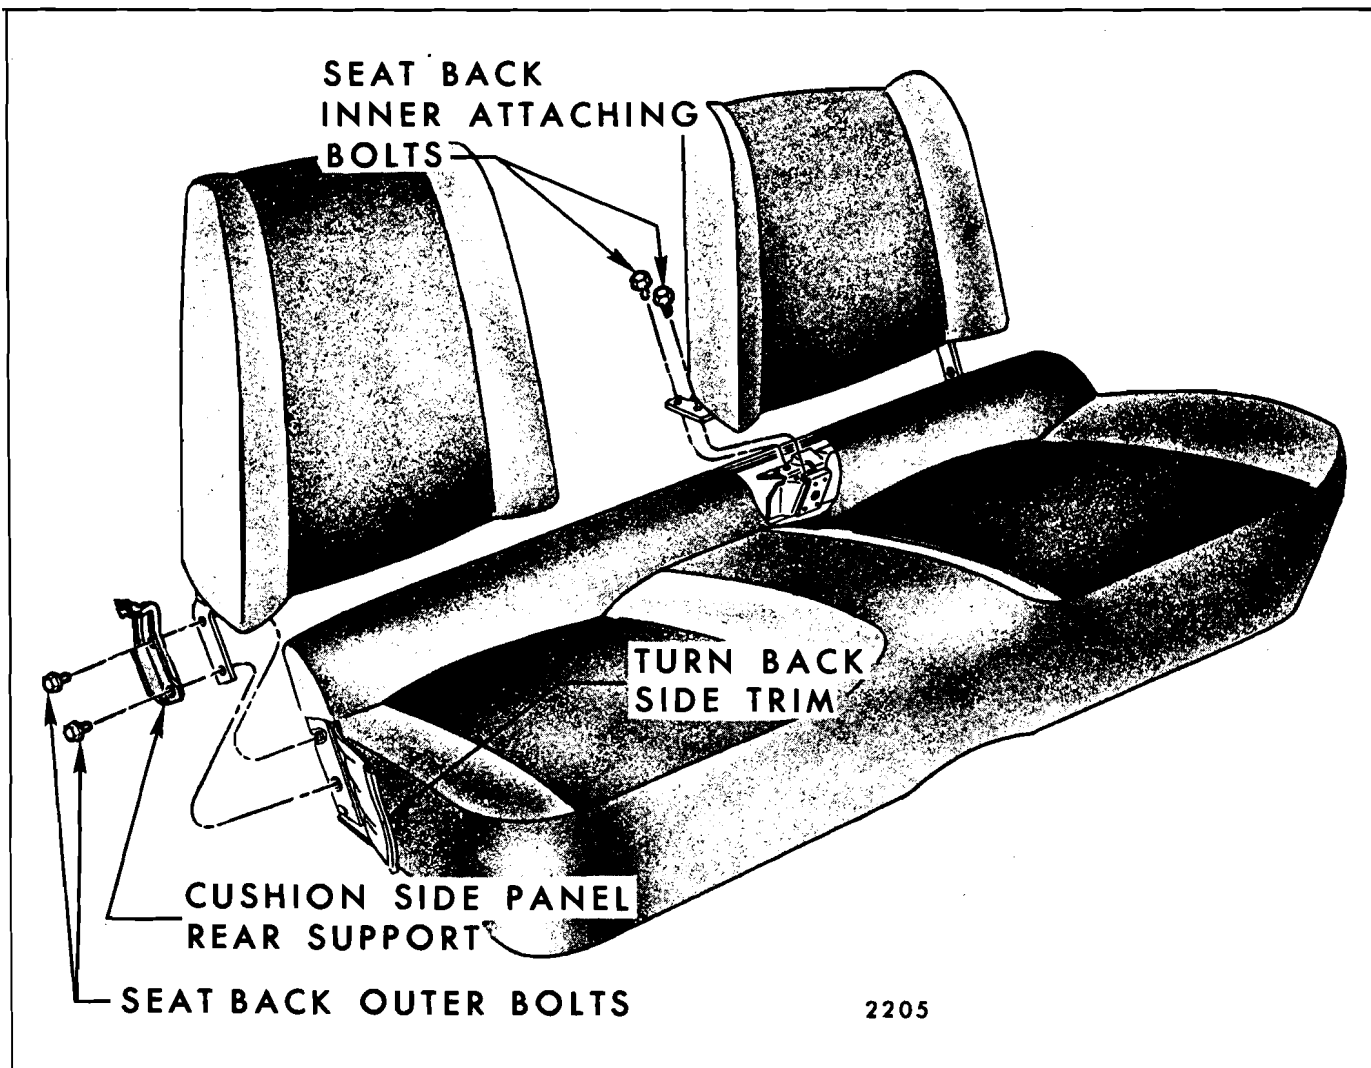

Fig. 15-49—Strato Full Width Seat Back Attachment
2. At side of seat from which seat back is being removed, remove hog rings securing cushion side trim at rear of seat and fold trim forward sufficiently to expose two seat back outer attaching bolts (Fig. 15-49).
5. To install seat back assembly, reverse removal procedure. Make certain seat side panel support (Fig. 15-49) is secured under seat back outer attaching bolts.
2. Remove seat side panel on side from which seat back is being removed. Remove hog rings securing seat cushion trim side facing at rear of seat and turn side facing forward sufficiently to expose seat back outer arm attaching bolts (Fig. 15-49).
4. Remove seat back outer arm attaching bolts (Fig. 15-49).